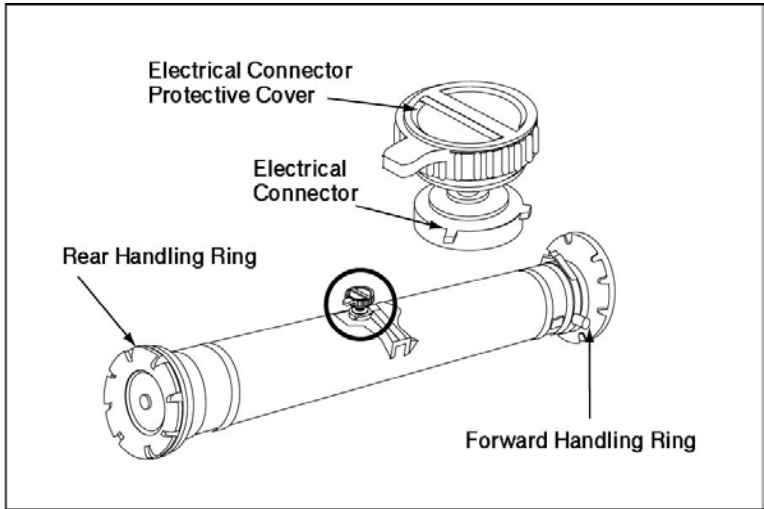

Figure 2-2-11: Encased Missile
27. **Encased Missile.** The encased missile (see Figure 2-2-11) is olive drab in colour and has identifying stripes or squares midway from centre to either ends to indicate a practice (blue) or a live (white or yellow) missile. Early encased missiles weighed 25.5 kg. with the BGM71F weighing 29.1 kg. All encased missiles are 128 cm in length and 22 cm in diameter. They have a forward handling ring and an electrical connector protective cover that is removed when preparing the encased missile for loading into the launch tube. The rear handling ring with diaphragm shall not be removed at any time. (More information on the missile may be found in Chapter 5 of this manual).